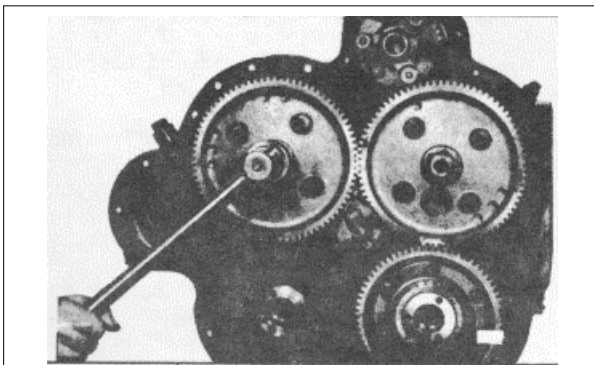

Fig. 1 Loosening Camshaft Gear Retaining Nut
- (1) Drain the engine cooling system.
- (2) Remove all of the accessories and assemblies necessary so the engine may be mounted on an overhaul stand (see SM1-63-2.0).
- (3) Mount the engine on the overhaul stand. Be sure the engine is securely mounted on the overhaul stand before releasing the lifting sling.
- (4) Remove the cylinder heads as outlined in SM1-63-5.0.
- (5) Remove the flywheel and flywheel housing as outlined in SM1-63-14.0.
- (6) Remove the water pump.
- (7) Remove the front balance weight cover.
- (8) Remove the bolts and step-up gear, if used, from the rear right bank camshaft gear (Fig. 1, SM1-63-22.0).
- (9) Remove the bolts which secure the nut retaining plates to the camshaft gears. Then remove the nut retaining plates.
- (10) Wedge a clean rag between the gears (Fig. 1) and remove the gear retaining nut from both ends of each camshaft.